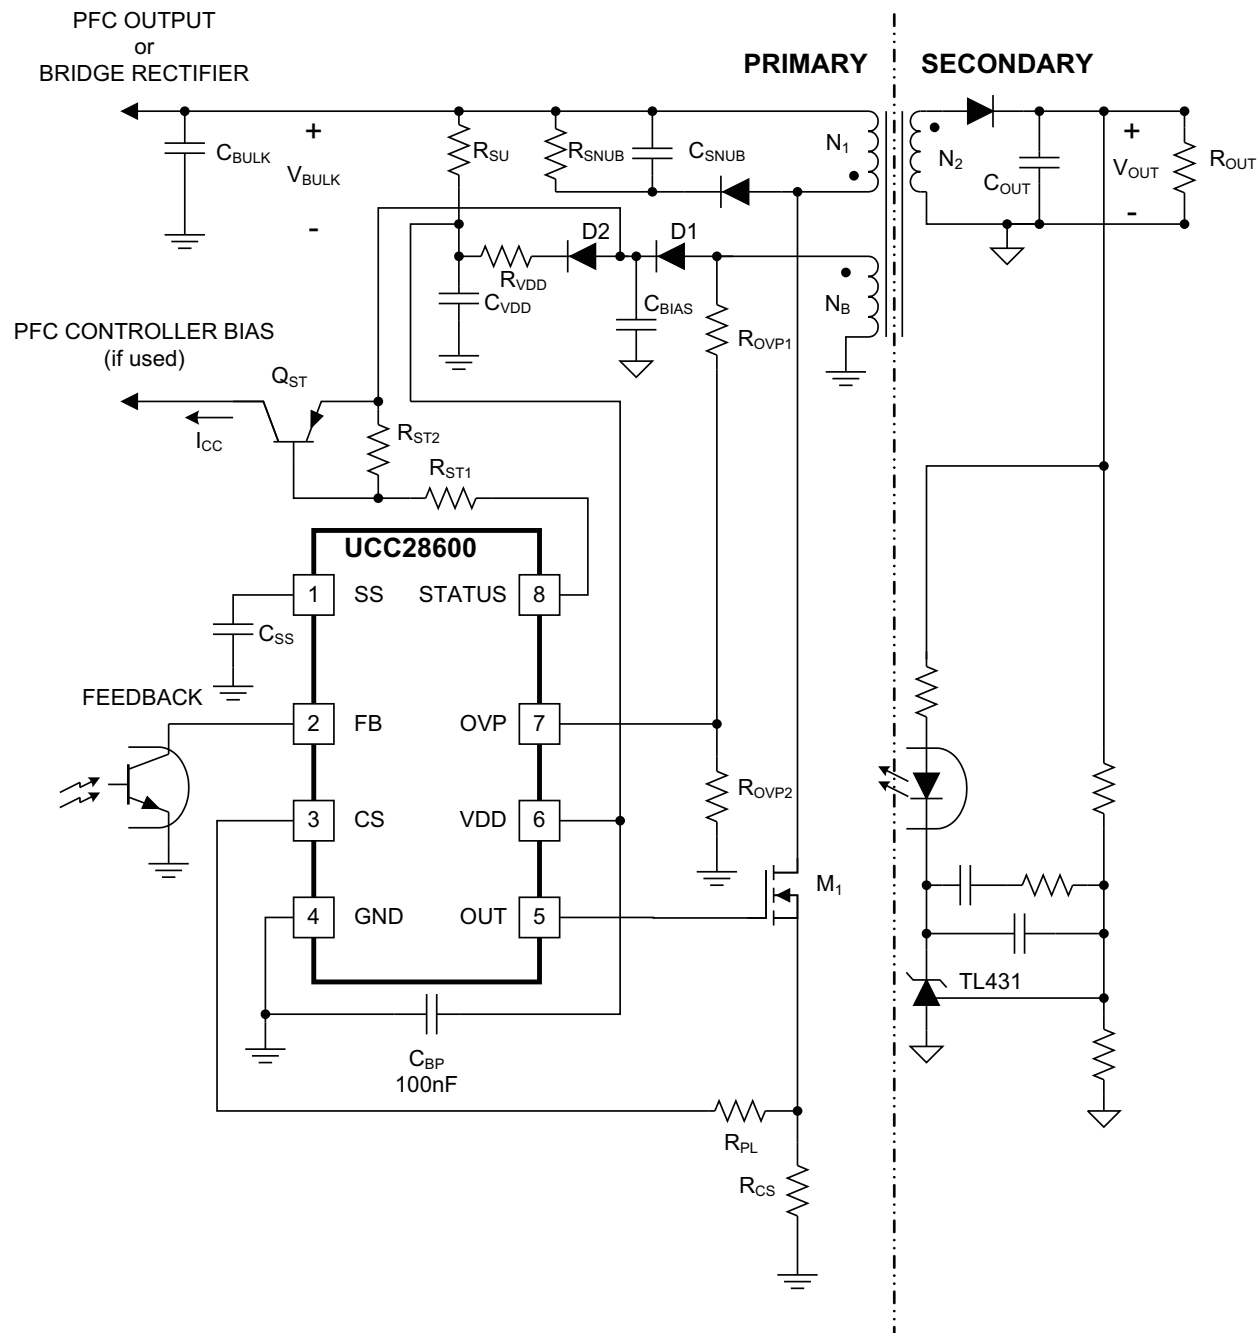

Figure 1. Pin Termination Schematic
(1) Refer to Figure 1 for all reference designators in the Terminal Components Table.
(2) Refer to the Electrical Characteristics Table for constant parameters.
(3) Refer to the UCC28600 Design Calculator (TI Literature Number SLVC104) or laboratory measurements for currents, voltages and times in the operational circuit.
The UCC28600 has many protection features that are found only on larger, full featured controllers. Refer to the Block Diagram/Typical Application and Figures 1, 4, 5, 6 and 7 for detailed block descriptions that show how the features are integrated into the normal control functions.